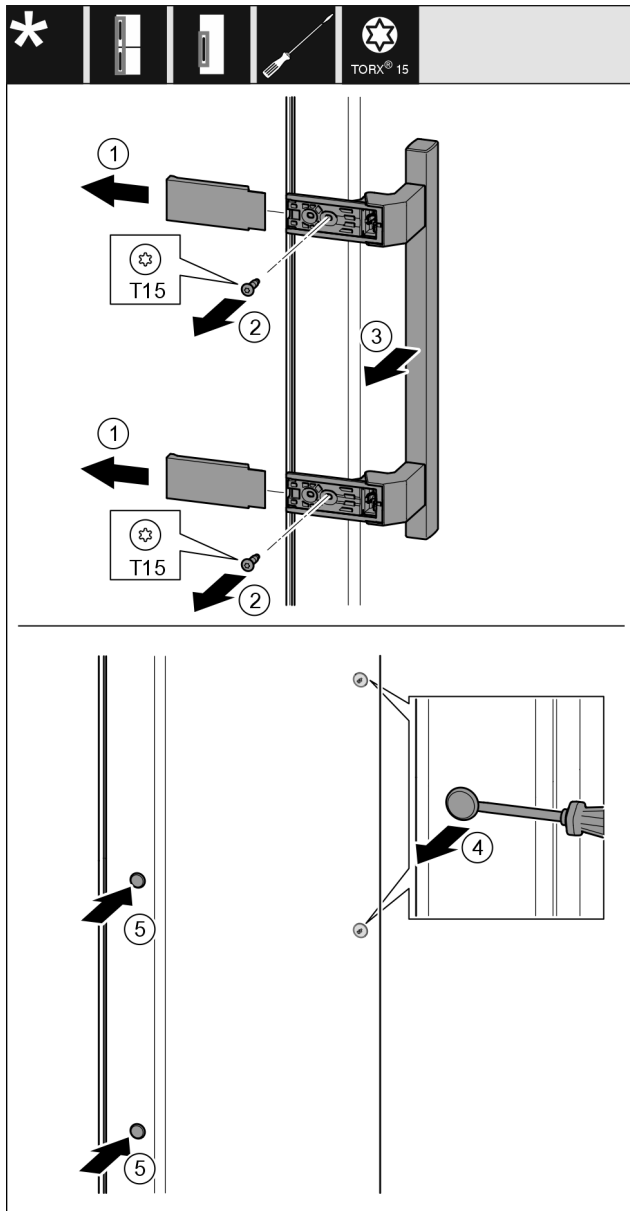

Fig. 40
- Remove the cover Fig. 40 (1).
- Unscrew screws Fig. 40 (2) with screwdriver.
- Remove the handle Fig. 40 (3).
- Use a slotted screwdriver to lift the side plug Fig. 40 (4) carefully and pull it out.
- Re-insert the plug Fig. 40 (5) on the other side.